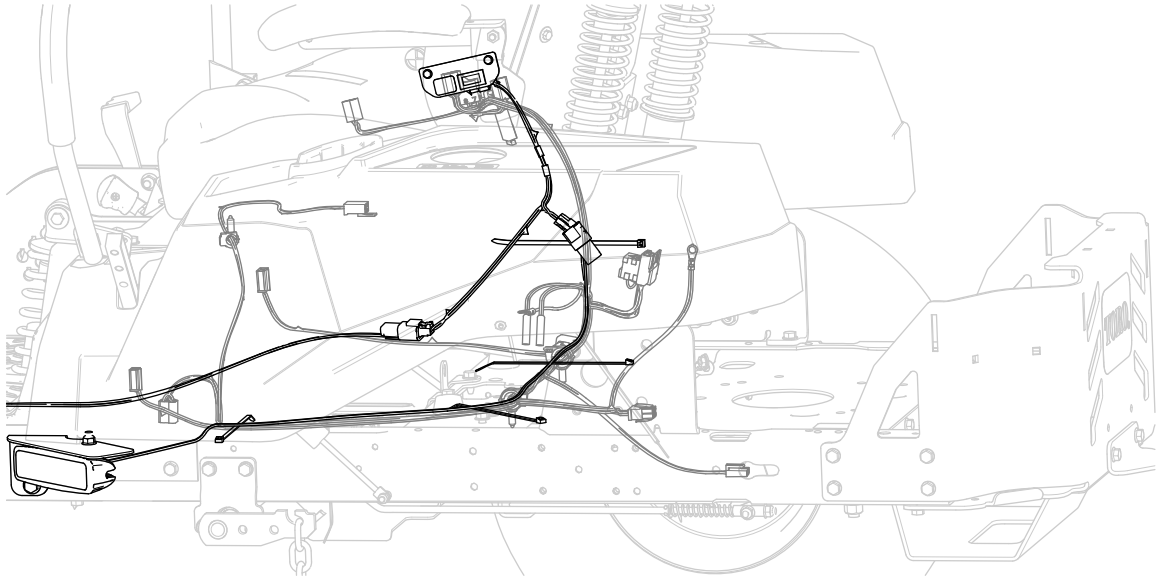
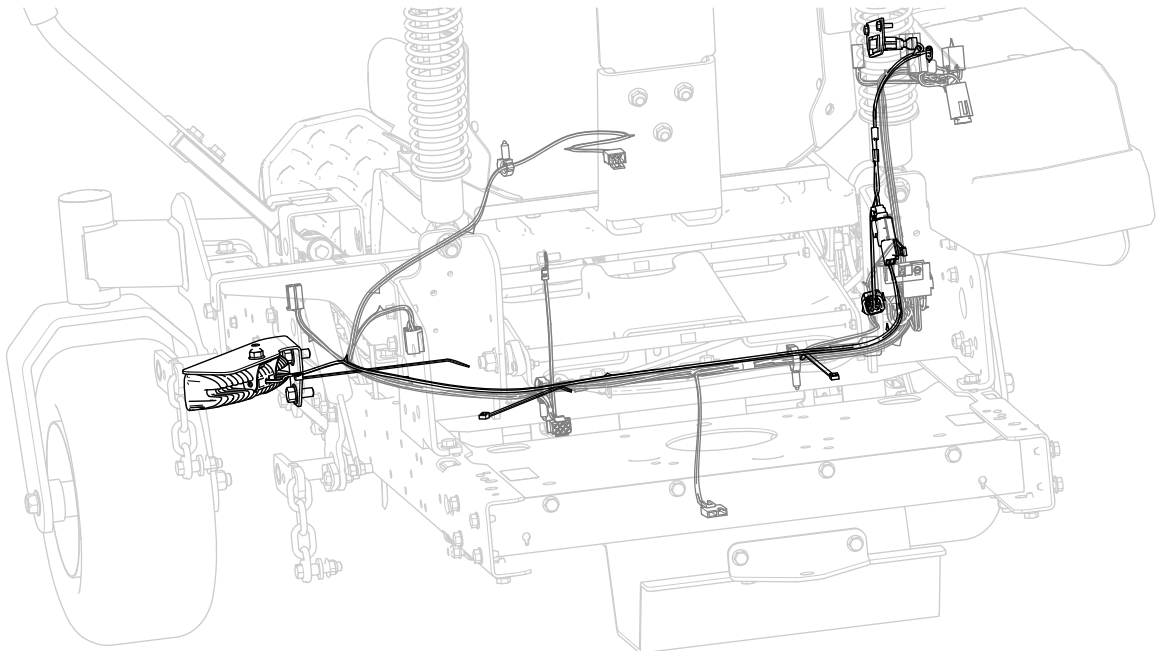

Figure 9
Figure 10
1. Beginning from the left side, route the wire harness next to the fuel tank, along the main machine wire harness (Figure 9).
2. Continue routing the wire harness underneath the seat plate, moving toward the controls (Figure 10).
3. Continue routing the wire harness toward the controls (Figure 10).
4. Secure the wire harness to the main machine wire harness using 4 cable ties as shown in Figure 9 and Figure 10.
5. Connect the side light wire-harness lead to the connector on the wire harness for the light kit (Figure 10).